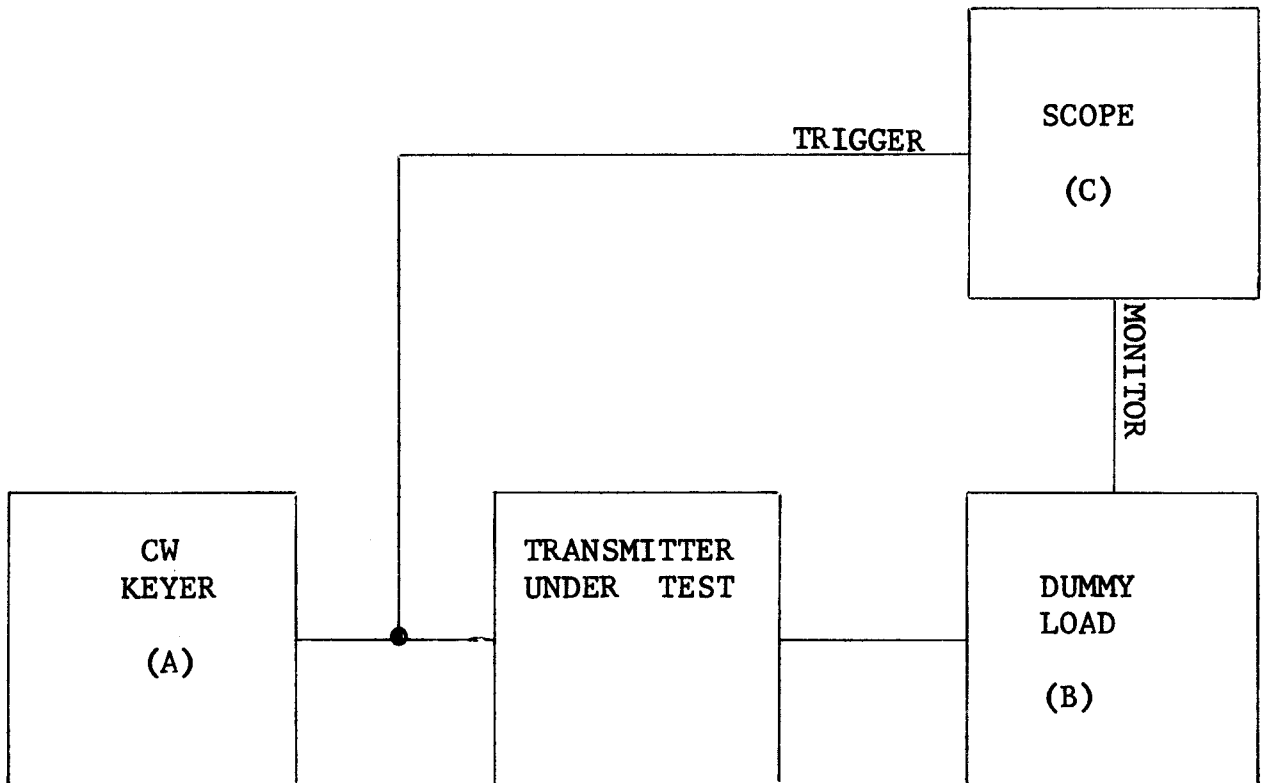

FIGURE 2.3
- a. Connect equipment as shown in Figure 2.3